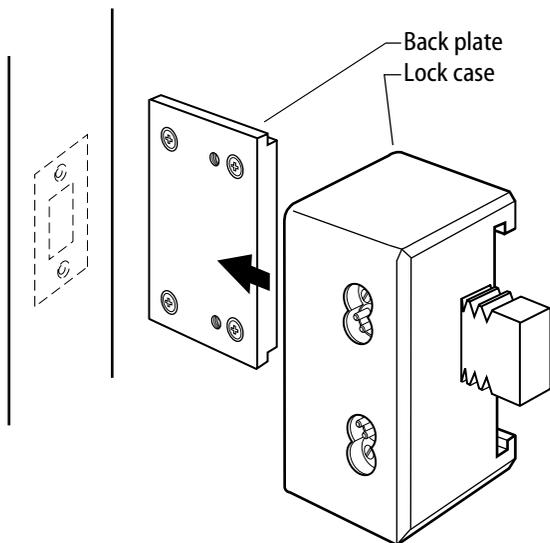

Figure 6 — Sliding the lock case onto the back plate
- 2 Slide the lock case into position onto the back plate. See Figure 6.